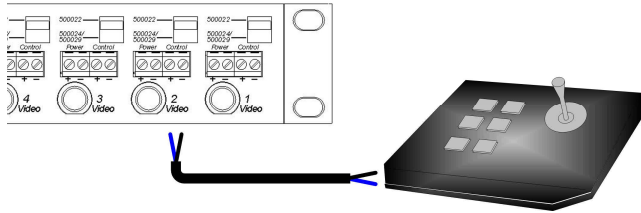

Figure 10: PTZ connection
10. If PTZ Control is to be transmitted to the camera, verify that the distance between the camera and the hub is within the distance specifications for sending PTZ control over twisted pair. Consult the PTZ equipment vendor for maximum distances. Please ensure that the port switch is set to Pass-Thru Mode (500022). When the port switch is set to Pass-Thru Mode (500022), one (1) twisted pair is used for PTZ control. For optimum results, it is recommended to use control protocols such as RS-422, RS-485 or Bi-phase. **Due to crosstalk issues, RS-232 is not recommended.**
11. Connect two (2) wires between the PTZ controller and the “Control” terminals on the hub (fig 10).